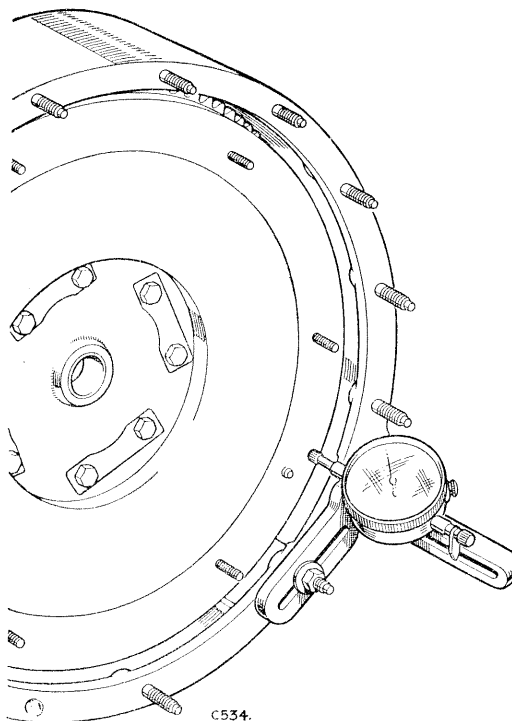

Fig. A-48—Checking run-out on flywheel face
3. Check the run-out on flywheel face as illustrated in Fig. A-48. The run-out on flywheel face must not exceed .002 in. (0.050 mm).